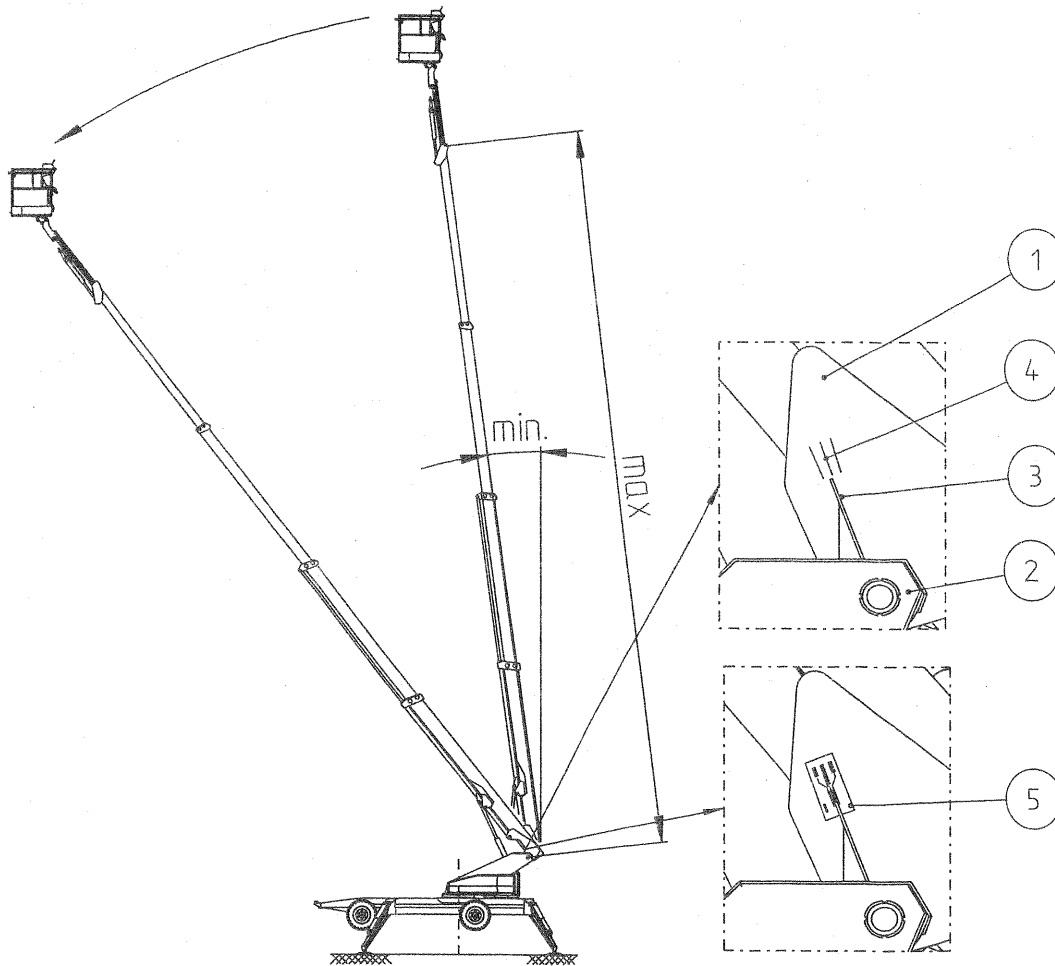

Figure 34-1
5. Extend the booms fully with the telescope in a continuous movement (figure 34-1).
8. Mark the stopping point on the lifting boom lug each time (ref. 4, figure 34-1).
9. Take the average of the three marks and attach decal 5 (figure 34-1) so that the line NORMAL is on the average point.